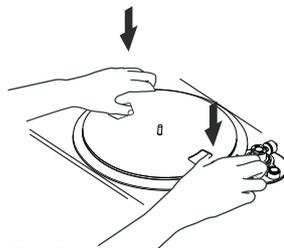

Fig. 2
2. Set up the turntable on a plane, stable ground and place the turntable platter on the axle of the turntable (Fig. 2).